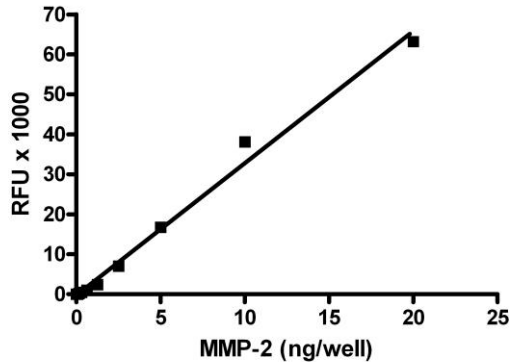

Figure 2. Sensitivity of the Sensolyte[®] Plus 520 MMP-2 assay.
- Determine the slope of the linear portion of the data plot. Obtain the reaction velocity (V) in RFU/min or RFU/sec.
- Plot data as RFU versus concentration of MMP (Figure 2).